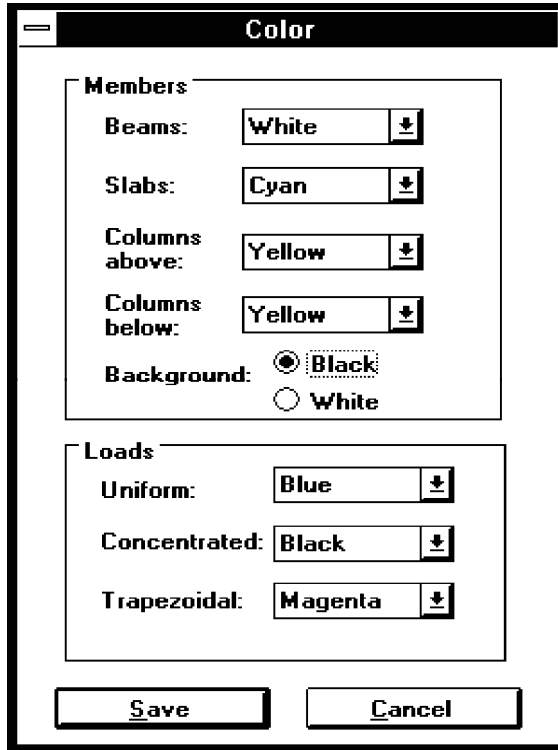

Figure 4-31—The Color dialog box
- From the **Options** menu, select **Color**. The dialog box of Figure 4-31 appears.